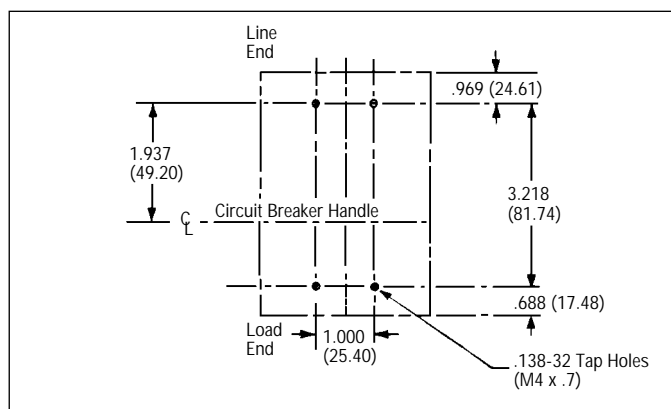

Figure 2-1 GMCP Mounting Bolt Drilling Plan
- For individual mounting panels, make sure that mounting panel is predrilled using drilling plan (Figure 2-1).